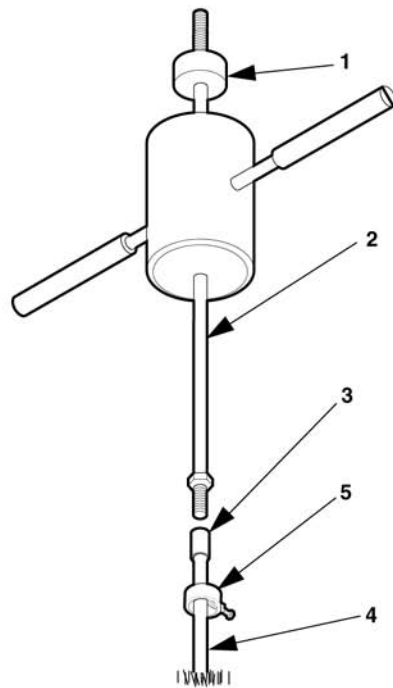

Figure 2-20. Remove Ground Rod.
- (1) Refer to figure 2-20 and position slide hammer above ground rod coupling (3). Invert slide hammer so that end having impact disk (1) is up. Connect slide hammer rod (2) to ground rod coupling (3). Tighten so that end of rod (2) makes firm contact with end of ground rod section (4) inside coupling (3).